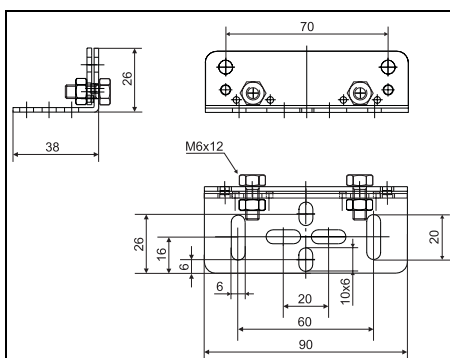
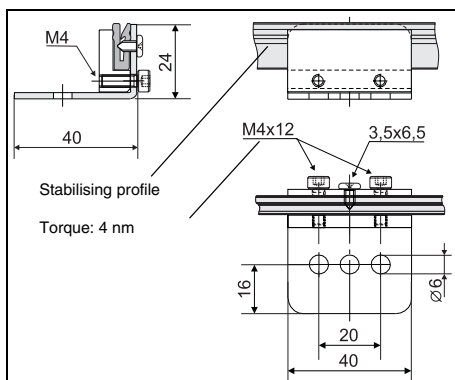

Fig. 1
Fig. 5
The angle system is one possibility to mount the laminate or stainless steel code rail. It consists of brackets for installing straight sections (Fig. 1) of the code rail, and brackets for installing the code rail in bends and on circular runways (Fig. 5). The brackets are made of galvanised steel plate and supplied pre-assembled.
- WCS-MB: angle for straight section without fixing screws (Fig. 1)
To produce bends, the mounting brackets for bends (bend brackets, Figs. 5 and 6) are used together with a special stabilising profile (WCS-SP2). The stabilising profile is supplied as a coil of the length ordered.
- WCS-MB-B: Mounting bracket for bend without fixing screws (Fig. 5)